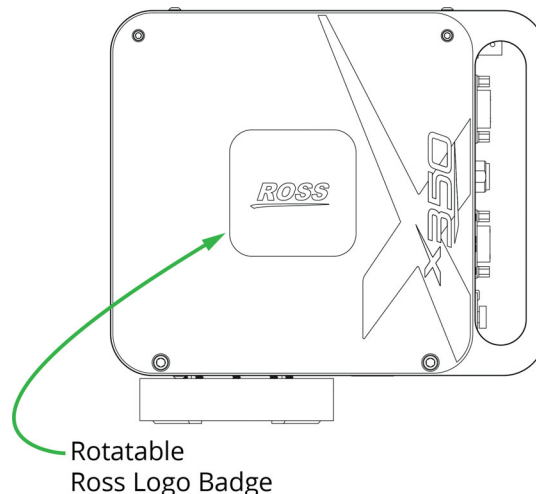

Figure 30 - X350 Head, showing Rotatable Ross Logo Badge
- a. Rotate the Ross logo badge on the side of the head (**Figure 30**).